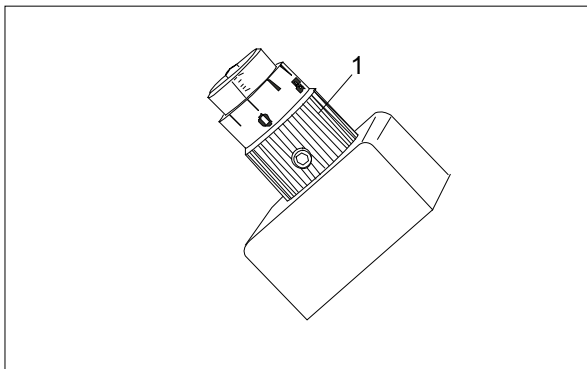

Fig. 56 Micrometer screw
2. Change the position of the fold plate by turning the micrometer screws (Fig. 56/1) clockwise or counter-clockwise.